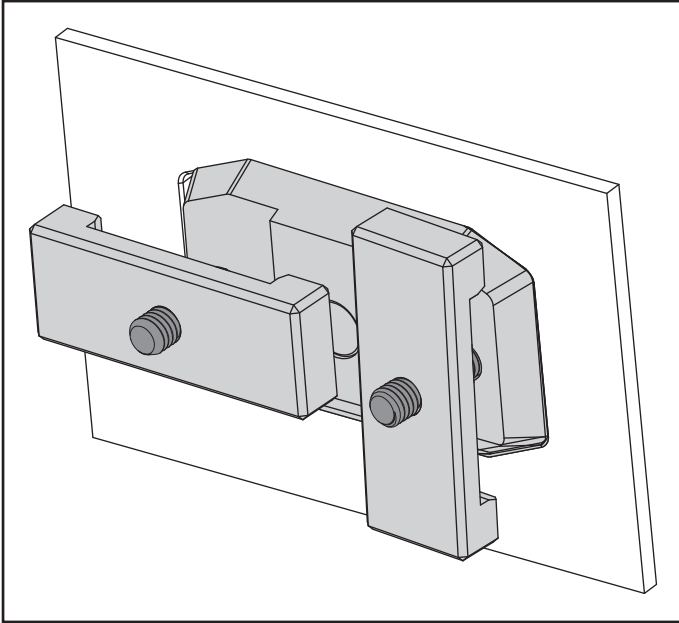

Figure 2.
2. While continuing to hold the anchor stud, turn the nuts (E) perpendicular to the anchor (D) (figure 2).